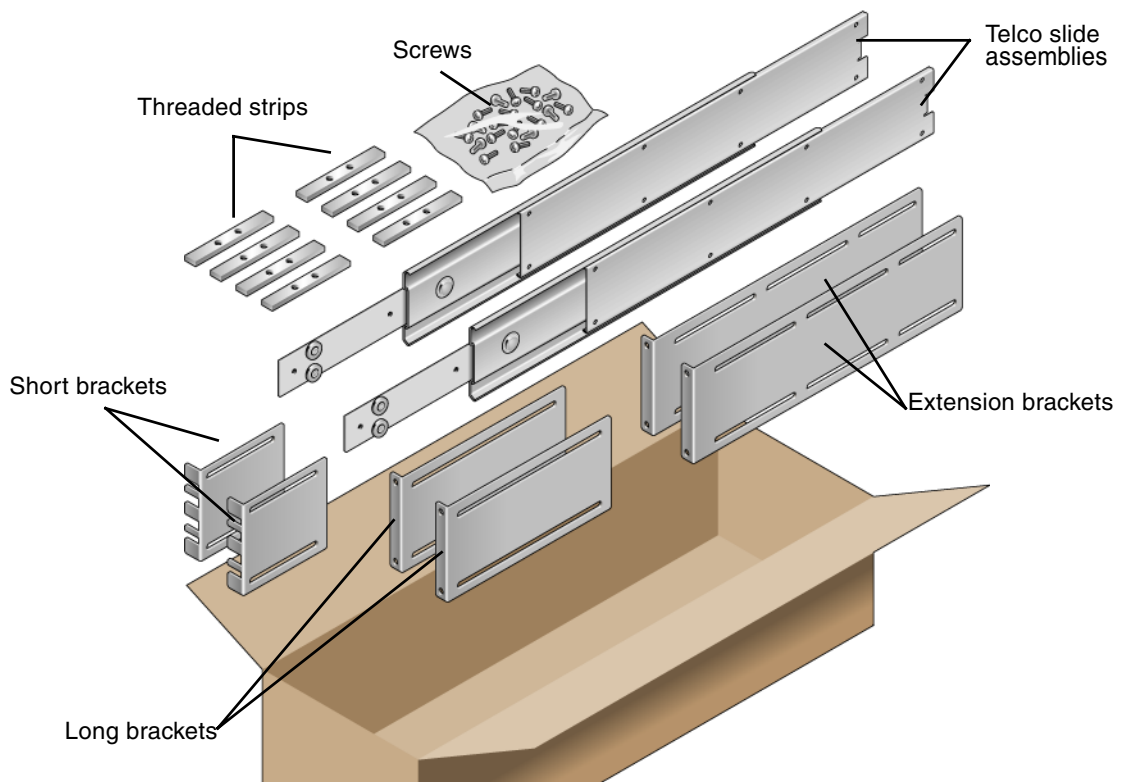

FIGURE 3-6 Contents of the Sliding Rail 19-Inch 4-Post Kit
3. **Get the Telco slide assemblies from the rack kit (FIGURE 3-6).**
6. Get the short brackets and long brackets from the rackmount kit (FIGURE 3-6).